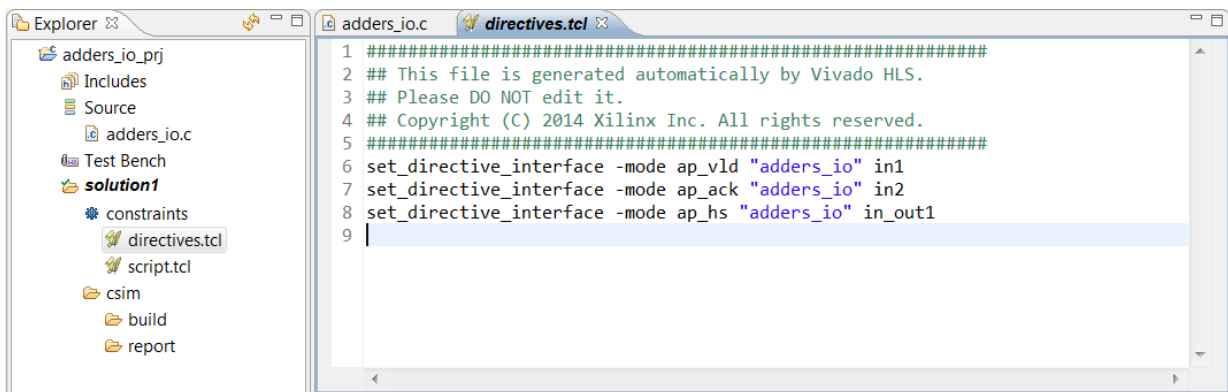

Figure 4-13: Directives for Lab 2
7. In the Explorer pane, expand the Constraints folder and double-click the `directives.tcl` file to open it, as shown in Figure 4-13.